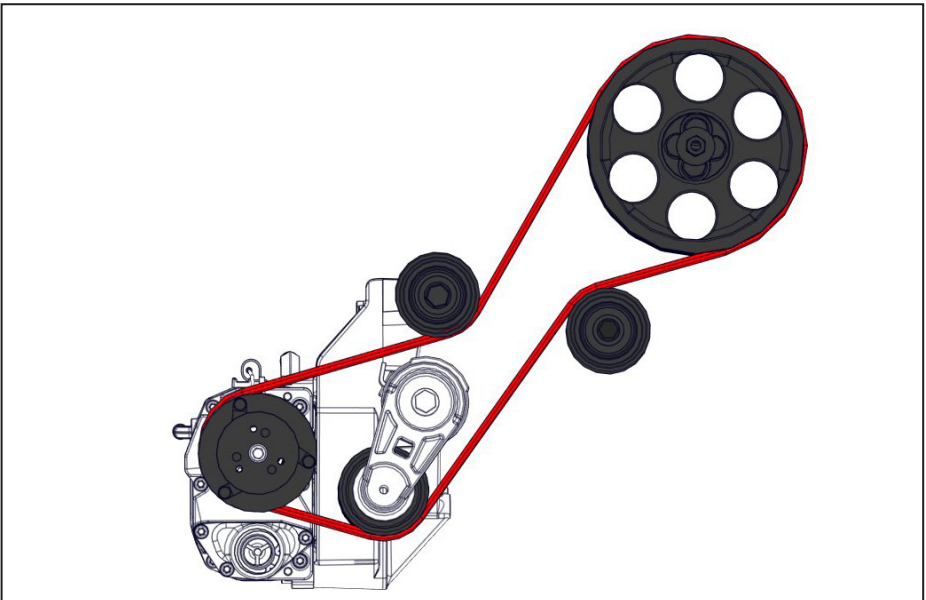

Figure 11 — VMAC belt routing
- Install and tension the VMAC belt (Figure 11).